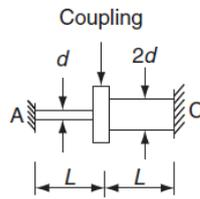

Figure 15 Question 29.
29. Two shafts AB and BC of equal length and diameters  $d$  and  $2d$  are made of the same material (Figure 15). They are joined at B through a shaft coupling, while the ends A and C are built-in (cantilevered). A twisting moment  $T$  is applied to the coupling. If  $T_A$  and  $T_C$  represent the twisting moments at the ends A and C, respectively, then: